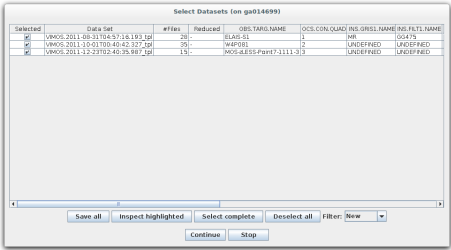

Figure 4.3: The “Select Datasets” pop-up window.
7. The `Data Set Chooser` actor will be highlighted next and will display a “Select Datasets” window (see Figure 4.3) that lists the DataSets along with the values of a selection of useful header keywords4. The first column consists of a set of tick boxes which allow the user to select the DataSets to be processed. By default all complete DataSets which have not yet been reduced will be selected.